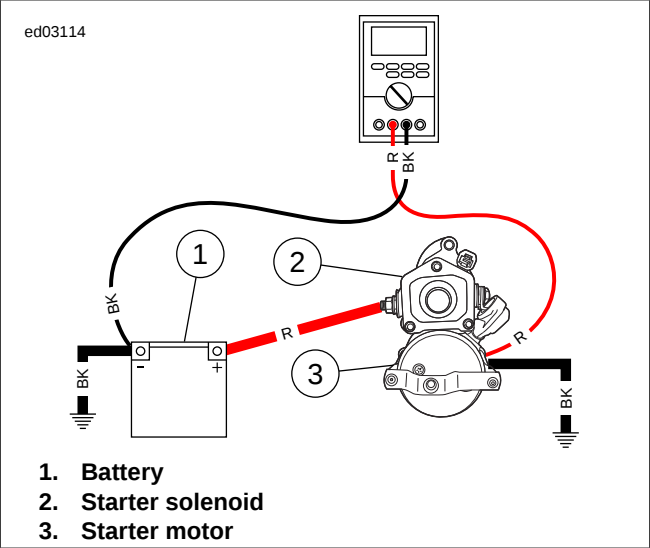

Figure 1-46. Starter Ground Circuit
3. See Figure 1-46. Finally move the black meter lead to the negative battery post and the red meter lead to the starter case. Crank the starter.